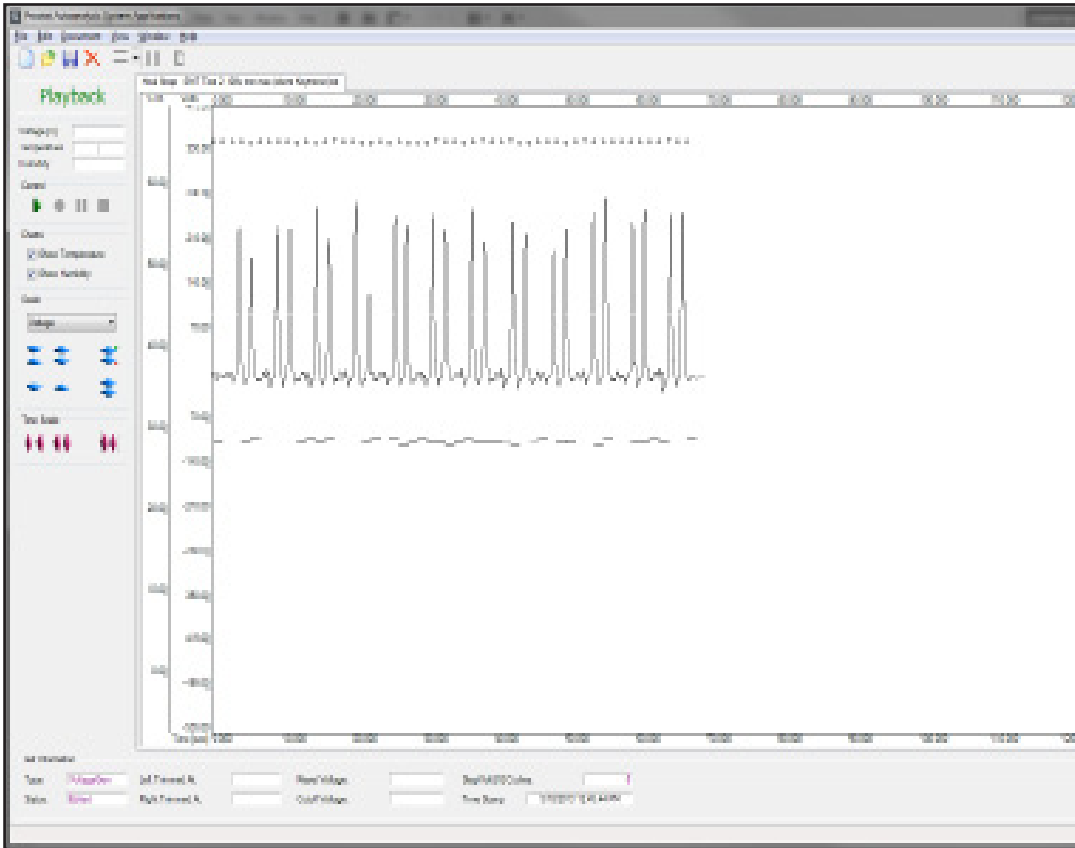

Figure 57: Offloaded File from PGA-710B Autoanalyzer
7. Downloaded Files will be displayed and indicated by **Offload** - # on their file tab (See Figure 57)